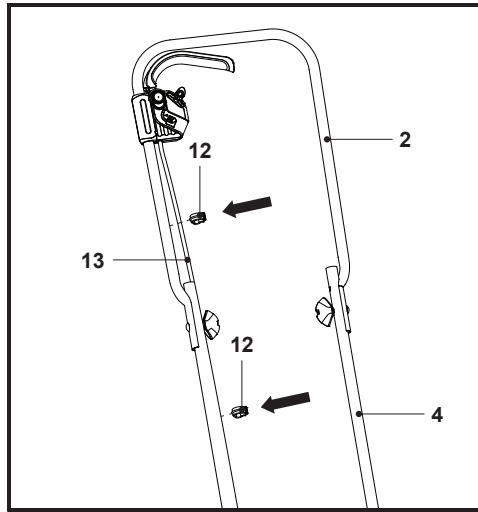

Fig. 3
3. Fix the interconnection cord (13) with the cord clips (12) to the handle bars (2, 4) (Fig. 3).